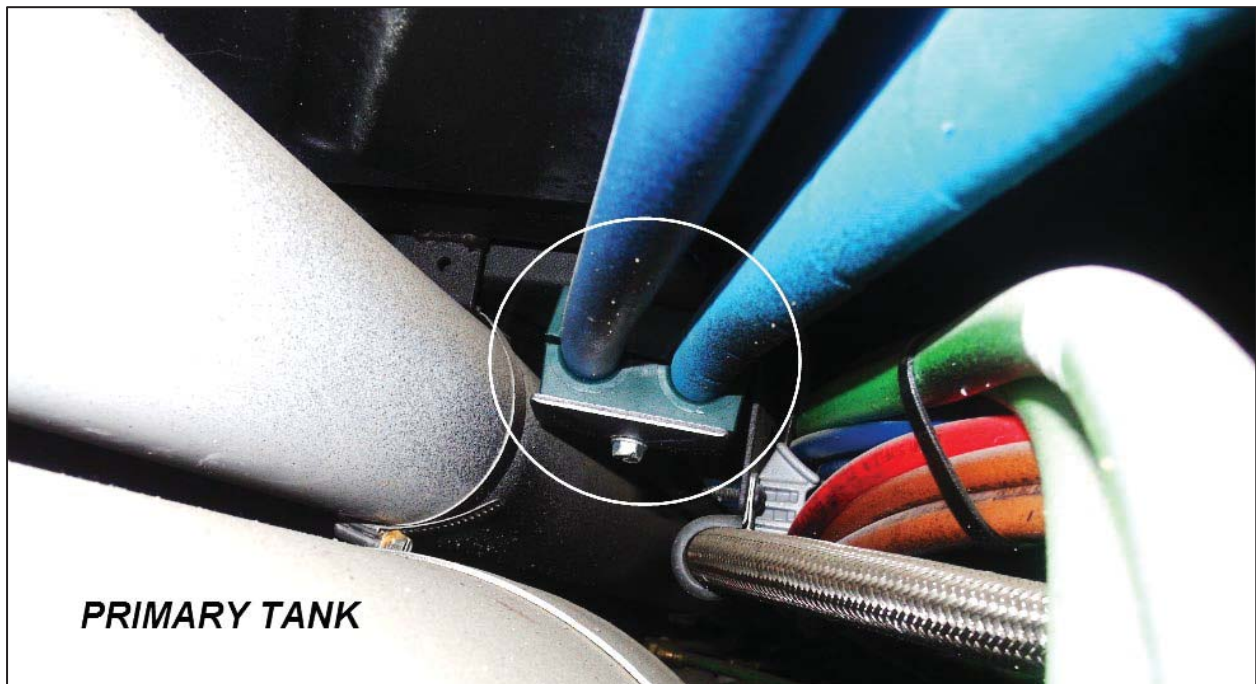

Figure 8: Above Primary Tank Looking Towards the Rear.
7. Remove three (3) block clamps accessed from above drive axle. (Fig. 8)